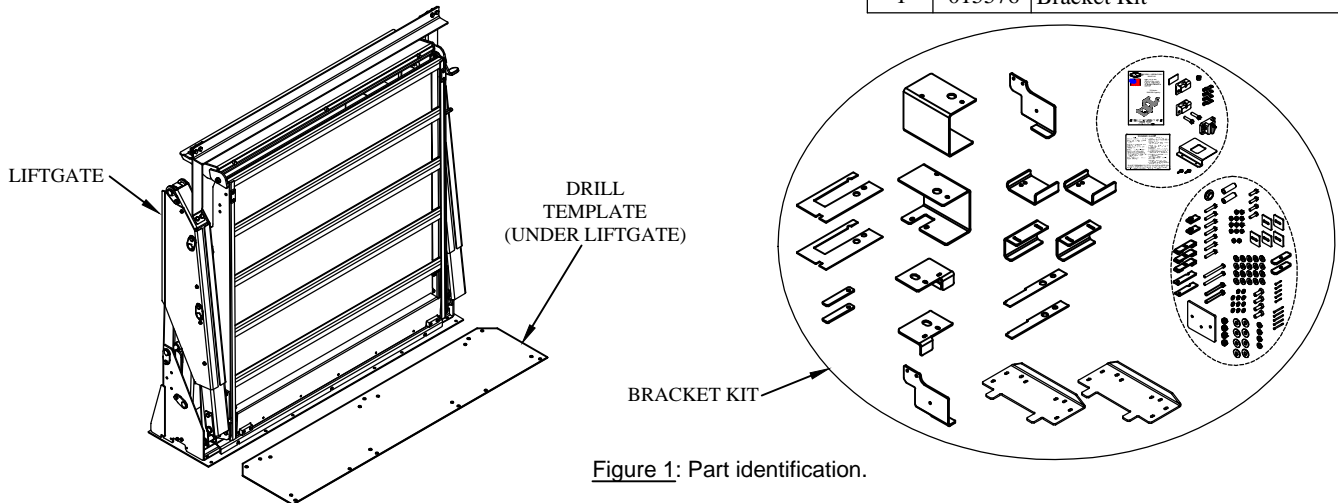
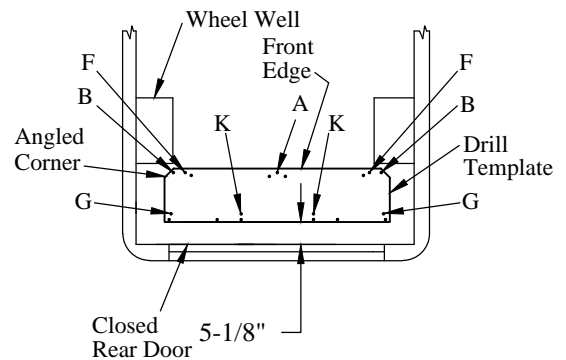

Figure 1: Part identification.
Figure 4: Drill template location (top view).
2. **Verify** mounting kit, liftgate, and other components (Figure 1 and Table 1).
- 5-1/8" from the closed rear doors at the center (Figure 4).
11. **Place** the drill template (Figure 1) in the rear of the van (Figure 4):